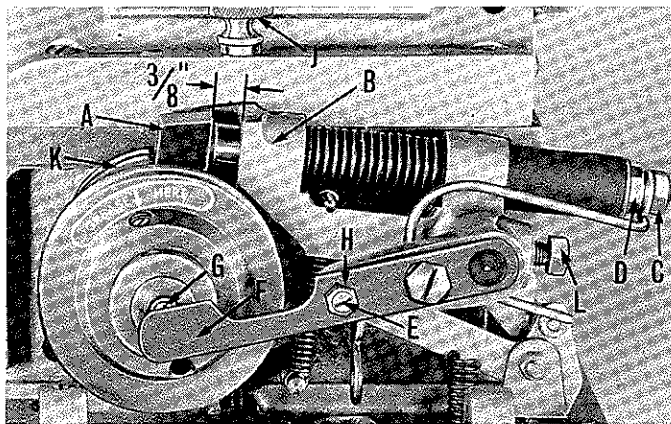
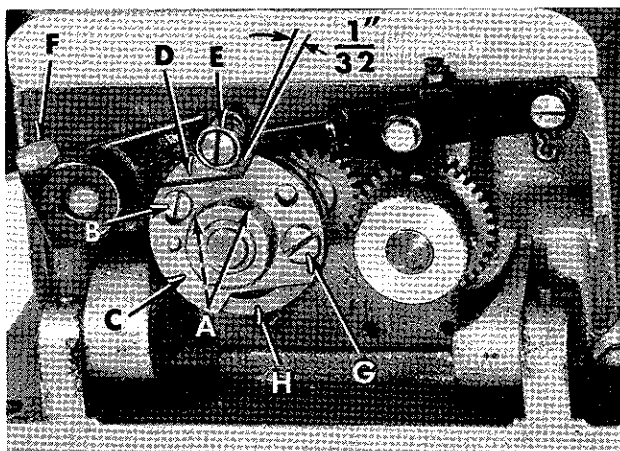
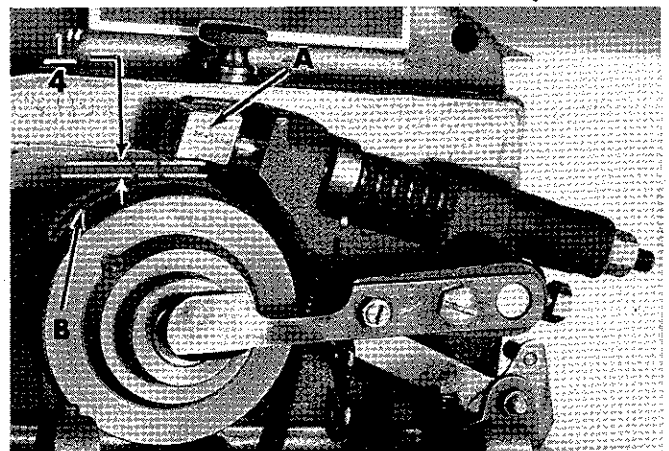
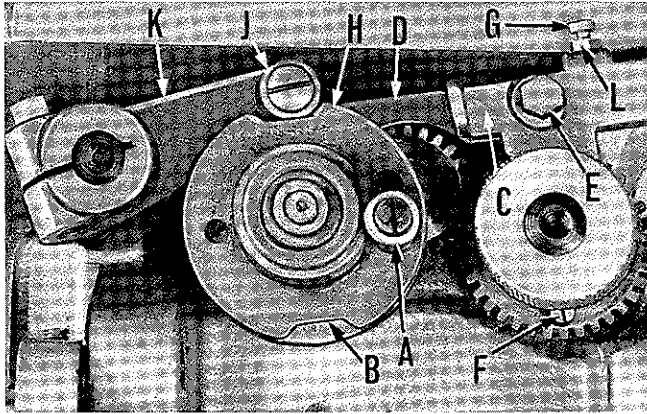

Fig. 1
Fig. 2A
Fig. 3A
Fig. 5
This position is that which is shown in Fig. 1 with the stop motion disc and pawl (K) against the plunger (A).
With the machine in stop position, the stop motion plunger (A, Fig. 1) should be set so that there is  $\frac{3}{8}$  inch clearance between the bottom of the plunger and the plunger lever bracket (B). Loosen the back lock nut (C), and adjust the front nut (D) to obtain this setting. Lock the back nut. Adjust screw (E) in cam lever (F) so that there is  $\frac{1}{32}$  inch clearance between ball (G) and the thin section of lever (F) when the pulley is pressed in towards machine. Lock screw with nut (H). Make sure that set screw (L) is securely tightened.
With the machine in stop position, loosen the two socket head set screws (A, Fig. 2A) and screw (B). Rotate "left cam" (C) counterclockwise to the top of its elongated slot (as viewed in Fig. 2A) and tighten screw (B). Rotate cam (C) and "right cam" (D) as required to obtain 1/32 inch clearance between roller (E) and the front of slot in cam (D); tighten set screws (A).
Depress the treadle to take machine out of stop position, then rotate pulley two complete revolutions in operating direction. Release treadle and measure the distance between plunger (A, Fig. 3A) and the highest point on disc (B). The distance should be 1/4 inch. Adjustment can be made by loosening clamp screw (F, Fig. 2A) in the stop motion trip lever and moving lever up or down to attain specified clearance. Should it become necessary to move the lever down, depress the treadle while making adjustment. Retighten clamp screw (F).
- Step 1. With the machine in stop position, loosen screws (A, Fig. 2A) and screw (B). Advance "left cam" (C) by rotating it clockwise, SLIGHTLY, relative to the "right cam" (D). Retighten screws (A and B) after referring to NOTE 1 above.
- Step 3. Should disc and pawl (K, Fig. 1) stop short of plunger (A), (this can be checked by rotating disc towards the operator and if the plunger does not catch the disc and pawl, the machine has not reached its stopped position), denoting cam is advanced beyond proper setting. To correct: retard "left cam" (C, Fig. 2A) by rotating it counterclockwise, SLIGHTLY, relative to the "right cam" (D). Refer to NOTE 1 above, before securing screws (A and B).
**NOTE: 2.** With reference to (A, Fig. 5) under "STITCH SETTINGS", the stitch adjusting knob has been replaced by screw (G, Fig. 2A) which secures cam shoe (H) using the upper or lower hole in "left cam" (C), as applicable.
Depress treadle to take machine out of stop position, and rotate pulley two complete revolutions in operating direction. Loosen knurled screw (J, Fig. 1) and lay machine on its side.
Figure 5 shows the machine in stop position, and set for 12 or 16 stitches. The stitch adjusting knob (A) is at its low position at the bottom of the slot and the gap (B) is closed. To change to 6 or 8 stitches, simply pull out on the stitch adjusting knob (A) and raise it to the top of the slot. At this point, the gap (B) will be open.
When changing from 6 or 8 to 12 or 16 stitches, the machine must be in stop position with the stitch adjusting knob (A, Fig. 5) towards the front. Pull out on the stitch adjusting knob (A) and move it to the bottom of its slot as shown in Fig. 5. Gap (B) will now be closed.
When changing from 6 or 8, or 12 or 16, to 24 or 32 stitches, the machine must be in stop position with stitch adjusting knob (A, Fig. 5) to the front. If the machine is in the 6 or 8 stitch position, pull out on the stitch adjusting knob (A) and move it to the bottom of its slot. Check position of screw (F). It should be at the bottom as shown in Fig. 5. If it is not, the machine will have to be re-cycled once to bring screw (F) into proper position.